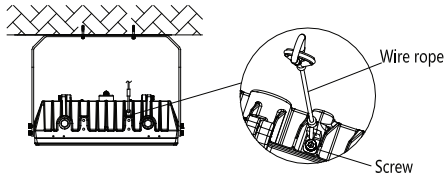

Figure 37
- 2.Fix the wire rope to the wire rope fixing position in the fixture.Tighten the wire rope.(Figure 37)